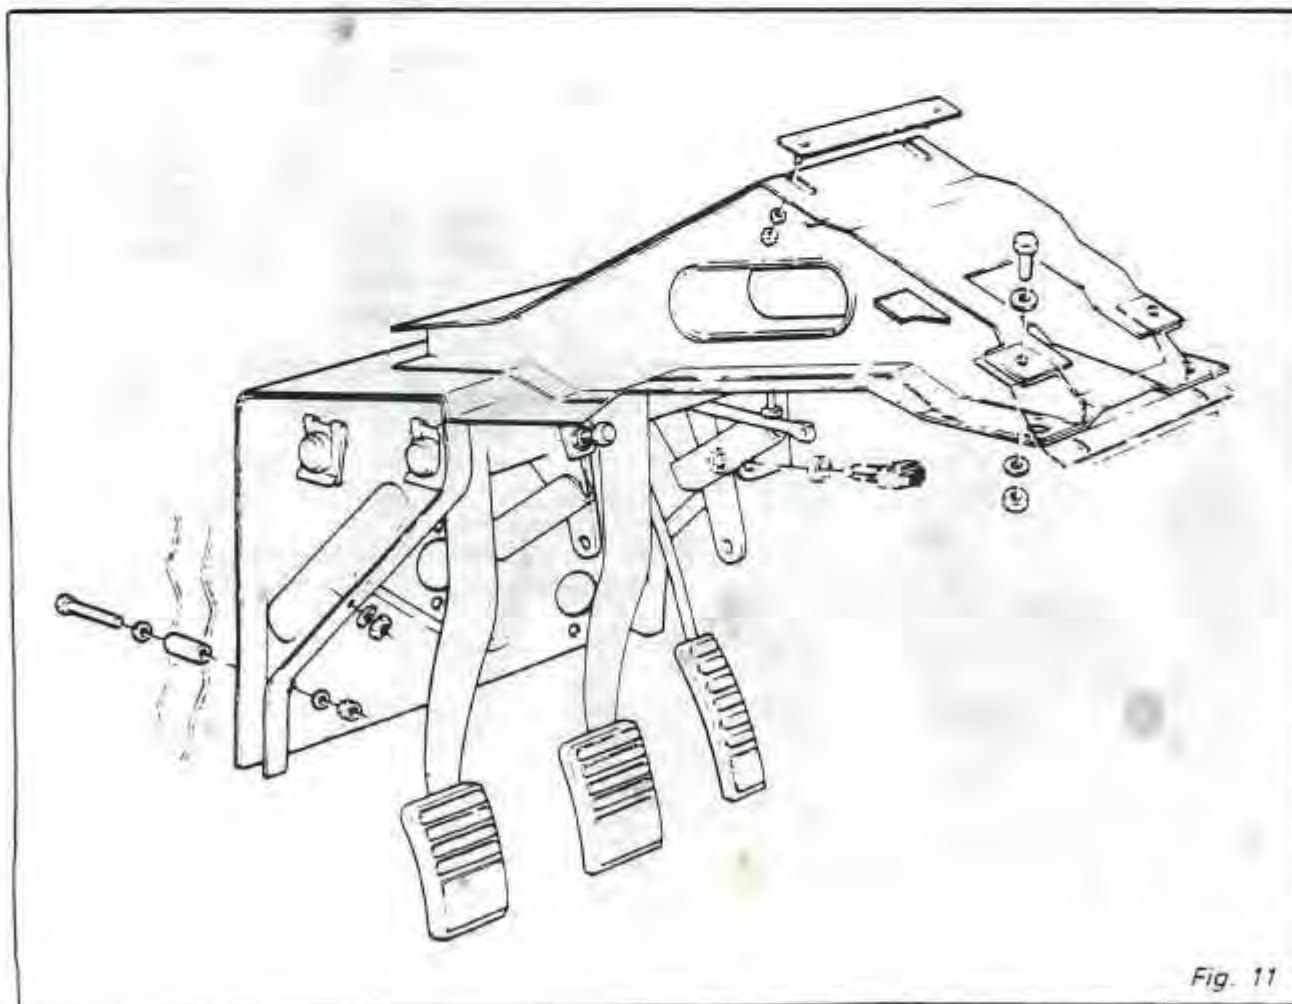
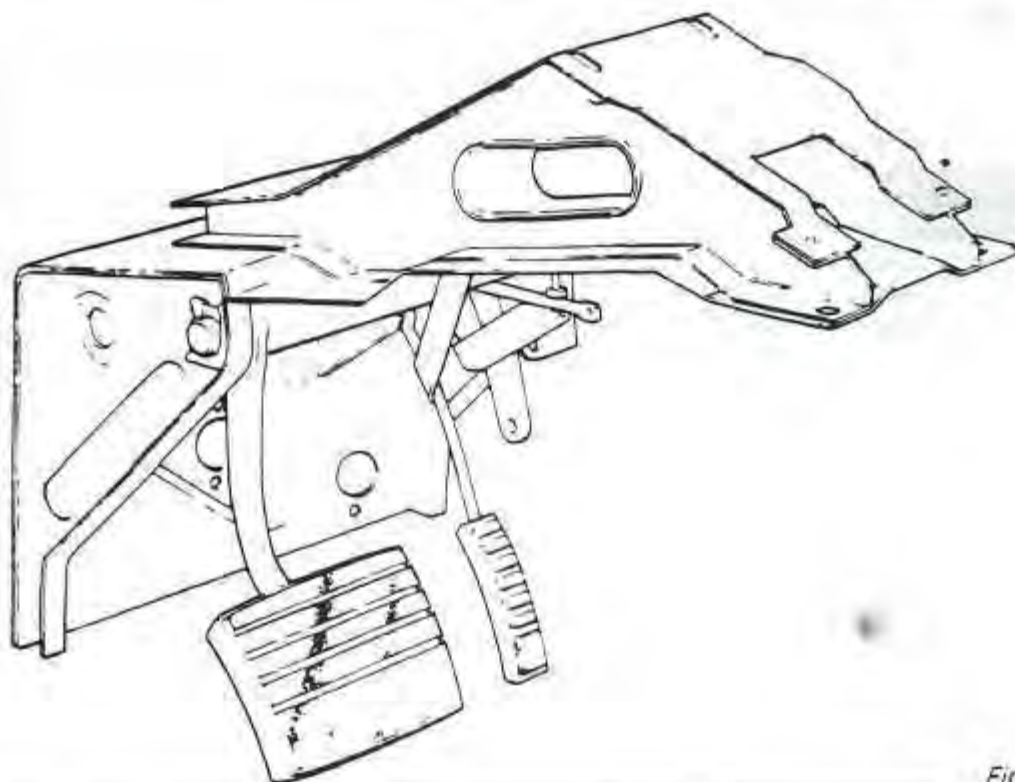

Fig. 11
Fig. 12
NOTE: Manual Transmission — (Fig. 11) — this procedure may be performed with the pedal box installed; Automatic Transmission — (Fig. 12) — the pedal must first be removed from the car.
6. Automatic transmission only. Install the pedal box assembly. (Fig. 12)
5. The relay lever pivot bushes may be replaced by knocking out the old bushes and pressing in the new. (Fig. 11)
7. Install the pedal box assembly. (Fig. 11)
2. Remove the spring clip retaining the pedal shaft from the right side of the pedal box. (Fig. 12)